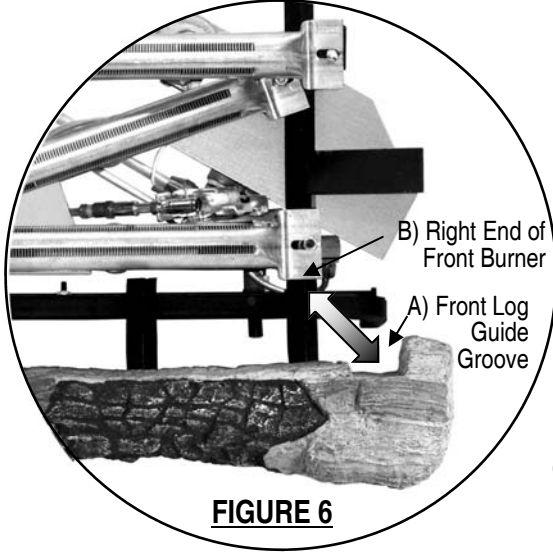

FIGURE 6
1. **FRONT LOG:** Align **Front Log Guide Groove** (Figure 6A) with right end of **Front Burner** (Figure 6 and 7B) and position **Front Log** between **Front Burner** and **Grate Teeth** as shown in Figure 7C.